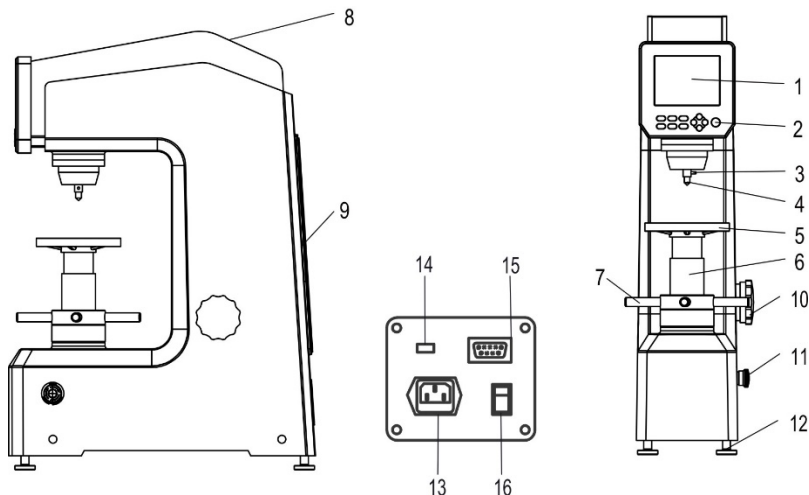

Fig 3-2
3.4.2 Take the weight group out of the accessories kit and clean them thoroughly. Rotate the Load-Change Hand Wheel (10) to the place number 588, and then take the Hanging Rod (18) from the Back Cover and insert it in the hole of the Weight A (22), fasten the M10 Nut (23) at the tail of the Hanging Rod. Hook the Hanging Rod in the ear of the tail of the Lever (17). And then place the weight B (21) and Weight C (20) separately on two Fork-Shaped Frames (19). At this point, rotate the Load-Change Hand Wheel clockwise for a whole cycle and observe the round pegs on both sides of the Weight and see if they are properly placed in the groove of the Fork-Shaped Frame. The Weights should not touch the inside wall of the instrument body (See Fig 3-2, 3-3).